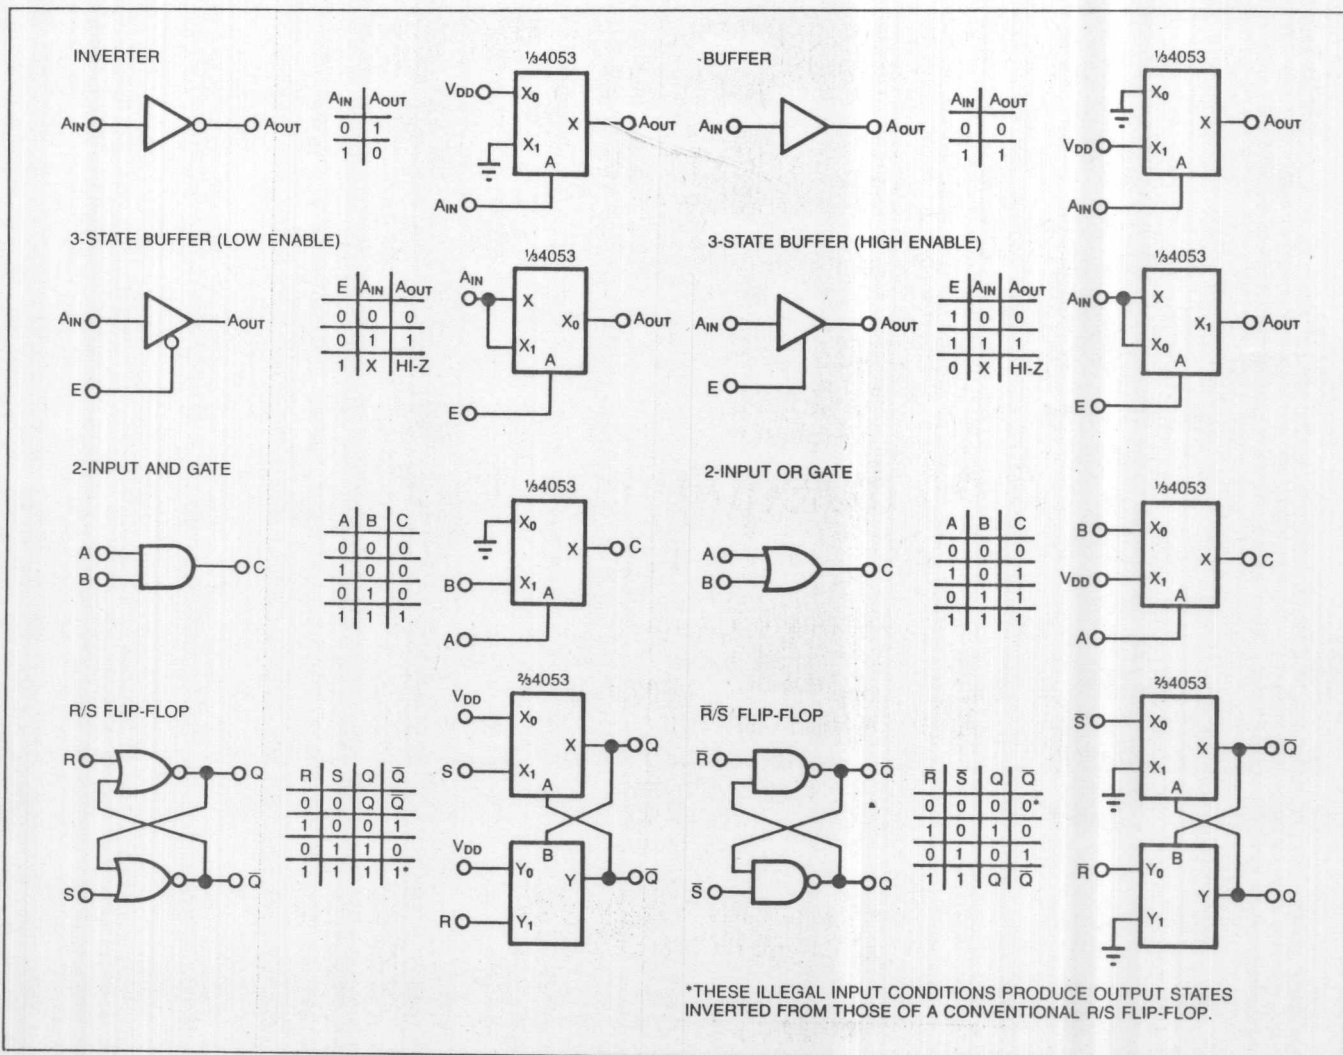
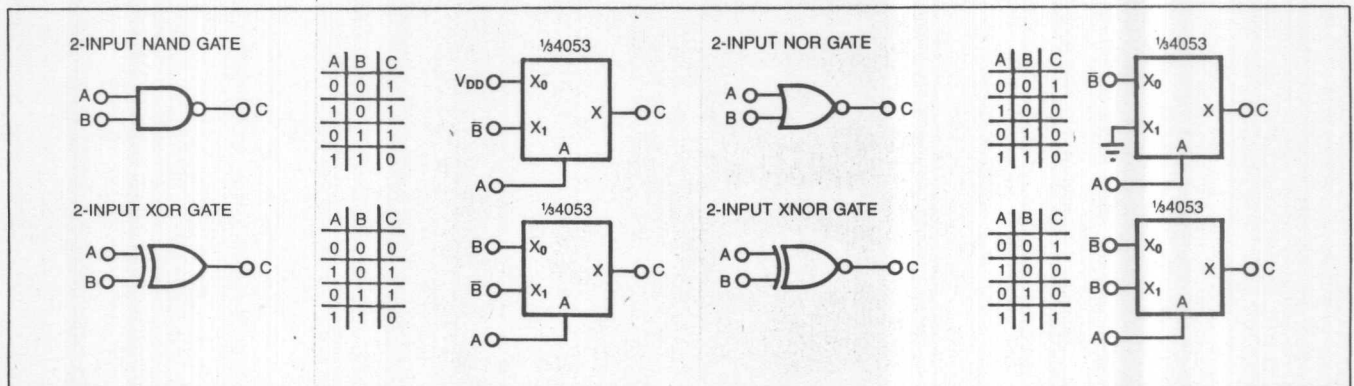

Fig 1—You can implement each of these eight digital functions with one 4053-type analog multiplexer.
Fig 2—Each of these 2-input gates requires the complement of one input if you're going to use a 4053 to effect them.
**Fig 1**, for example, shows the 4053's implementations and truth tables for eight logic functions. The inverter, buffers, and gates use one spdt section each; the flip-flops use two sections each. Note that the buffers
In **Fig 2**, the 2-input gates require the complement of one input; if the complement isn't available, though, you can generate it using a  $\frac{1}{2}$ 4053 as an inverter. The circuits of **Fig 1** and **Fig 2** will work with the  $V_{EE}$  terminal connected either to ground or to a negative supply voltage, provided that the 4053 and the external logic are operating from the same  $V_{DD}$  and  $V_{SS}$  supply levels. (*Ed Note: The 4053 requires supply voltages ( $V_{DD}$  and  $V_{SS}$ , pins 16 and 8), plus a bias supply ( $V_{EE}$ , pin 7).*)
The circuit shown in Fig 1 lets you delay the positive digital transitions applied at the Start Input according to a programmable time interval. Within the available range, you can program a desired delay time to 16-bit accuracy.
**Fig 1**—This circuit provides a programmable delay for positive transitions at the Start Input signal. You load the 16-bit delay factor in two consecutive bytes, from the  $D_0$ - $D_7$  inputs.